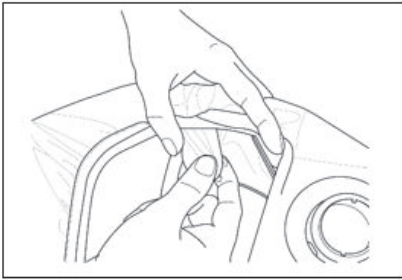
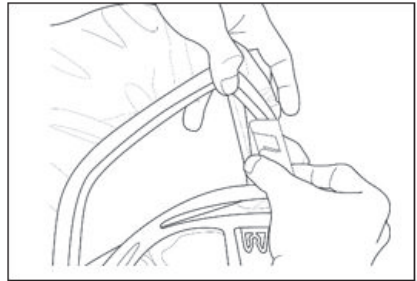
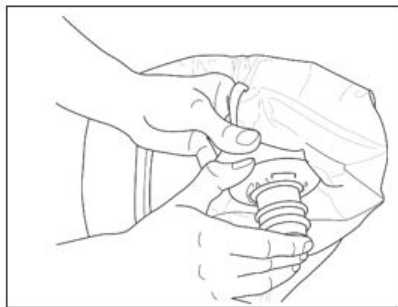

Fig. 13a
Fig. 13b
Fig. 13c
Dispose of product according to local regulations. The integrated plastic components can be removed for disposal (Fig. 13a), (Fig. 13b), (Fig. 13c).
- Remove the air inlet by detaching from the hoodtop fabric (Fig. 13c).